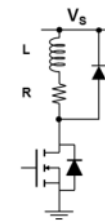
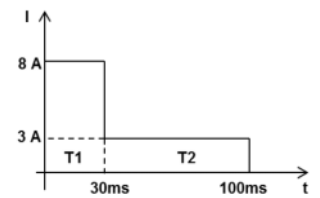

Fig. 2
Fig. 3
2) A solenoid valve ($L=0.3 \text{ mH}$; $R=1 \Omega$) is driven by a low-side switch ($r_{\text{ds(on)}} = 0.25 \Omega$) operating at a fixed frequency of 100 kHz (Fig. 2). The valve is activated by applying the current profile represented in Fig. 3. A "peak current mode" controller is used to limit the load current to the desired value.